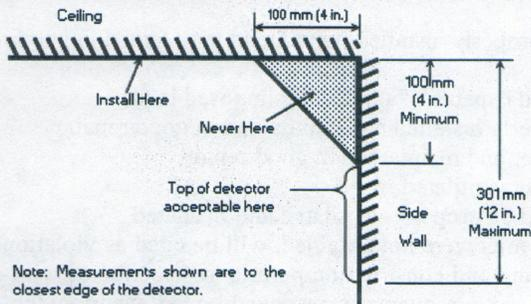
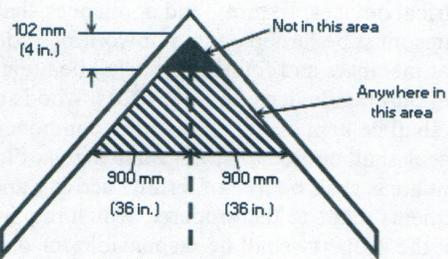

Figure 5: Proper mounting of smoke detectors.
Figure 6: Proper mounting of smoke detectors on peaked ceilings.
4. NOT located in kitchens, within five (5) feet of bathrooms, in attics and crawl spaces without a heating unit, within three (3) feet of HVAC vents, within one (1) foot of the peak of a peaked ceiling (Figure 6), within four (4) inches or the intersection of any wall and ceiling (Figure 5).